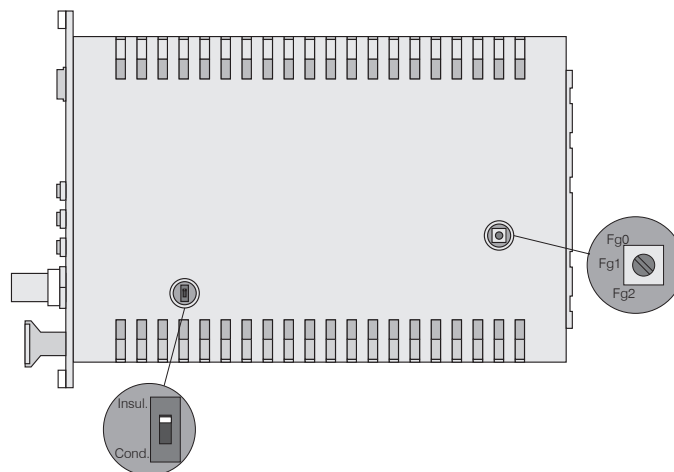

Fig. 27 Switches on board for material selection and limit frequency
Use the slide switch, see Fig. 27, to switch between conducting (Cond.) and non-conducting targets (Insul.). In position Cond. (conductor) only the zero setting with the zero-trimmer is active. The amplifying is set to 0 up to 10 V at the entire measuring range.
The limit frequency of the analog output signal can be set with a rotary switch on the board, see Fig. 27.
- Slide switch on the demodulator in position *Cond.* (Conductor, see Fig. 27)
➡ To do this, move the slide switch on the demodulator board to position *Insul.* (insulating materials, see Fig. 27). Make the necessary linearity adjustment as described, see Chap. 5.4.
- Slide switch on the demodulator in position *Insul.* (Insulation, see Fig. 27)